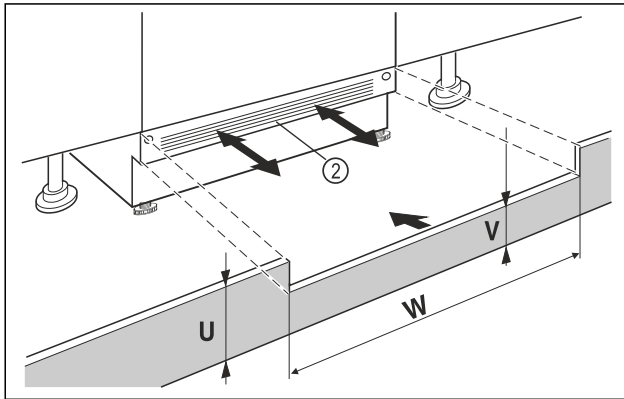

Fig. 15 Example illustration
- ▶ Put on the appliance base cover Fig. 15 (2) but do not fix it in place yet.
- ▶ If the base panel is visible Fig. 15 (2), pull it forwards so that the front edge of the ventilation grille and the unit base panel are level.
- ▶ If the base panel is concealed Fig. 15 (2), push it all the way back.
- ▶ Ensure that the ventilation slots are completely free: If necessary, cut the height of the unit base panel Fig. 15 (U) to size!
- ▶ Adjust the web height Fig. 15 (V) under the appliance base panel Fig. 15 (2) along the niche width Fig. 15 (W).